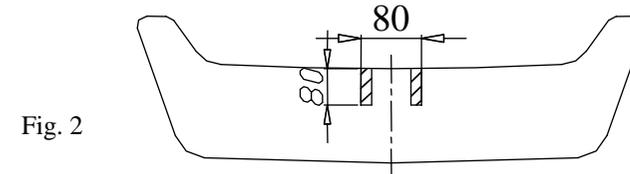

Fig. 2
4. Find under anti-noise mat in boot longitudinal holes on the left and right side (endmost of a car). To this holes put handles with nuts (pos. 6 and 7).
5. Left bracket (pos. 4) fix to the left chassis member and right bracket (pos. 5) fix to right chassis member through holes pos. A with handles (pos. 6 and 7). Next fix to body through holes pos. B
7. To in this way prepared brackets (pos. 4 and 5) fix main bar of the towing hitch (pos. 1) using bolts M12x35mm (pos. 9).
8. Reassemble the bumper after cut out fragments according to figure 2.